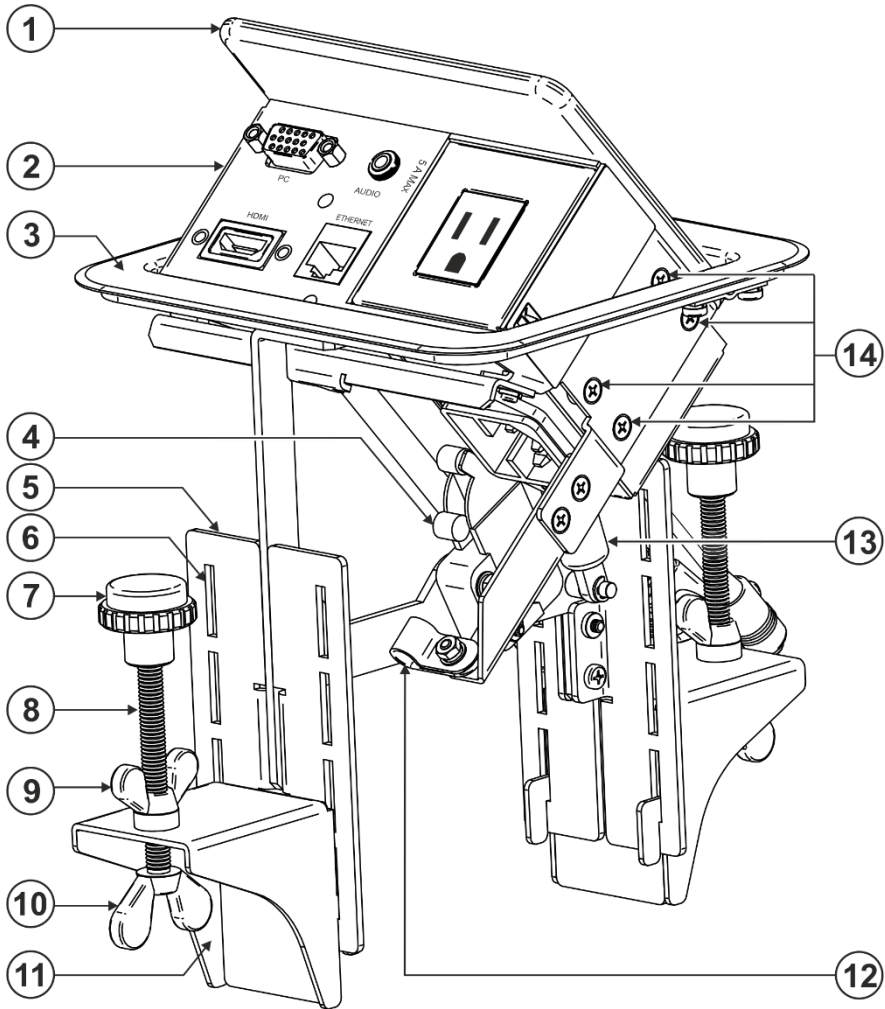

Figure 2: Defining the Parts of the PCS88-90 / PCS88-94 Pop-up Table Connection Bus
3. Insert the power cord into the power connector lock and tighten the screw (see Figure 2, item 12) to secure the power cable.